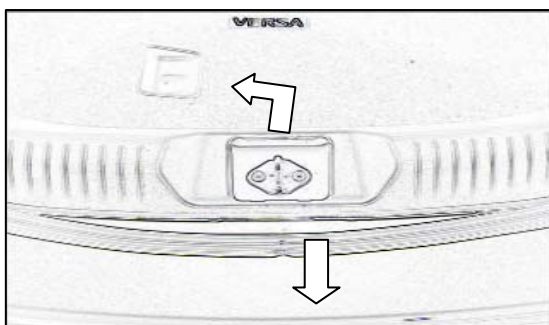

Figure 1
1. Remove parcel shelf and any cargo from space behind rear seats. Taking care not to damage the interior panels, gently pull the weatherseal away from the rear plastic trim plate and remove the center plate surrounding the striker. **See Figure 1**